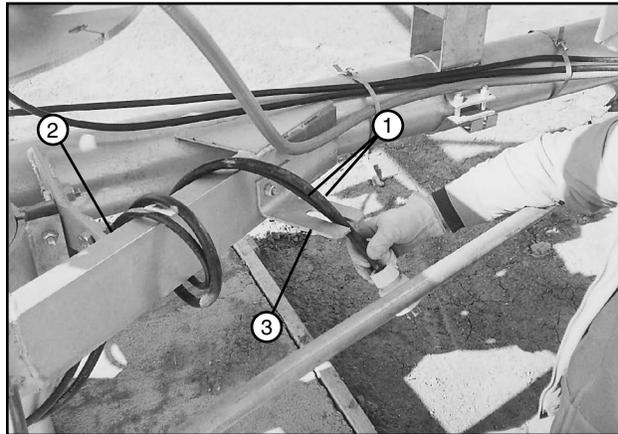

Figure 48-2 1. Cord
6. Wrap the cords around the tongue mounting channels and place the ends of the cords into the receptacle holder bracket. See Figure 48-2.